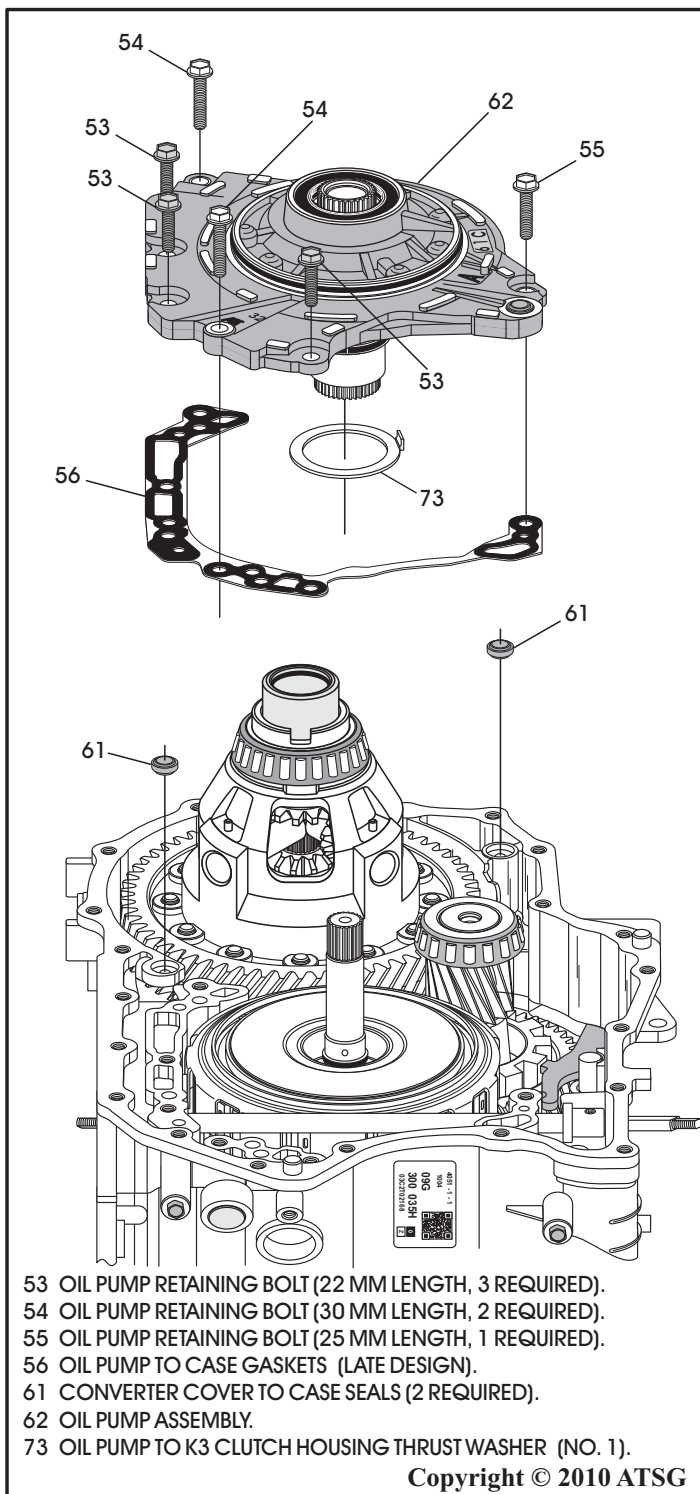

Figure 190
6. Install two new case to converter cover seals in the case pockets, as shown in Figure 190, and retain with small amount of Trans-Jel®.
57. Install the oil pump and gasket assembly, as shown in Figure 190.
58. Install the 6 oil pump retaining bolts, as shown in Figure 190.